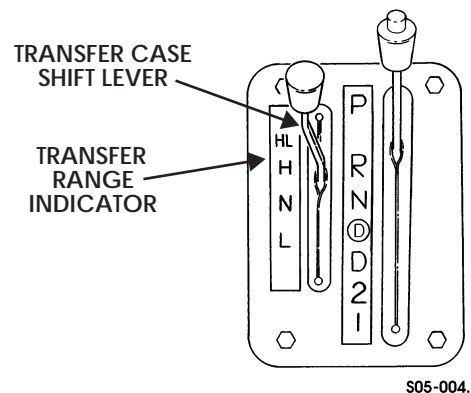

Figure 5-113: Transfer Case Range Indicator
4. Check transfer case shifting detents with positions on transfer range indicator (Figure 5-113).
2. Engage parking brake, and place transmission shift lever in D (drive) position (Figure 5-113).